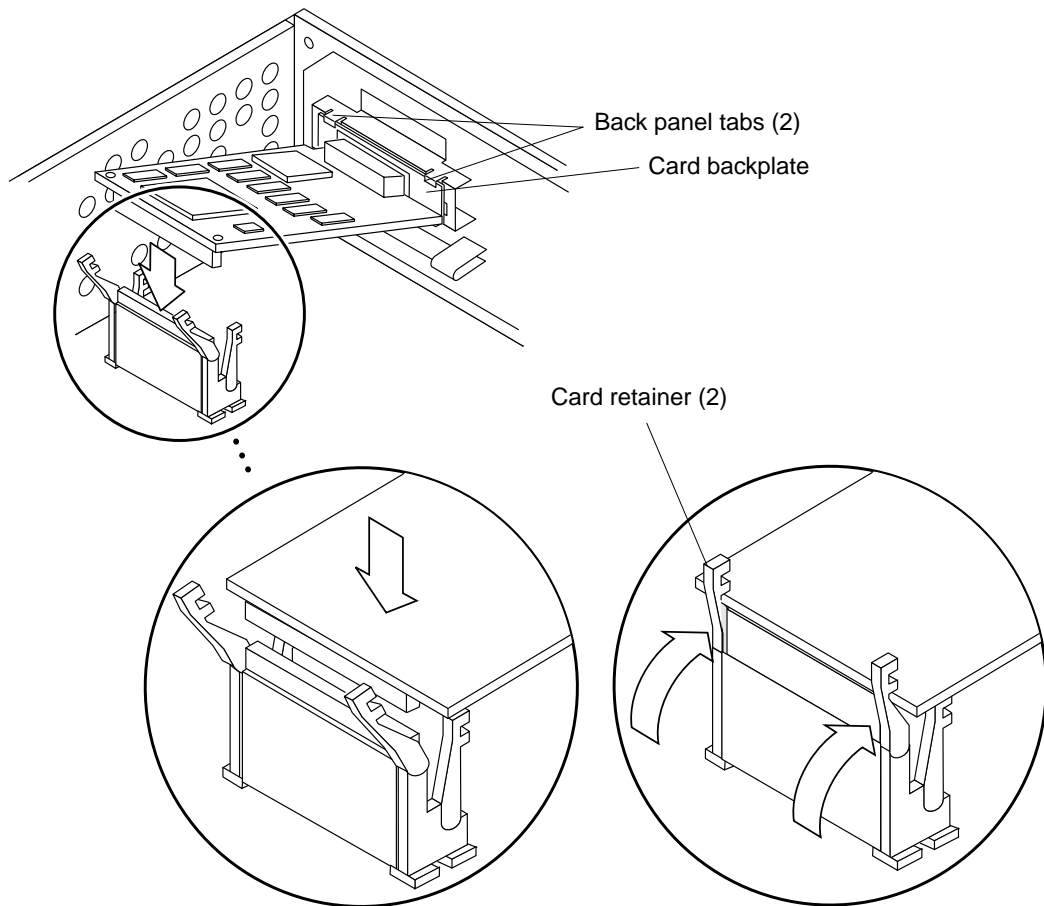

FIGURE 10-15 Replacing the SBus Card
2. Install the SBus card into the chassis as follows (FIGURE 10-15):